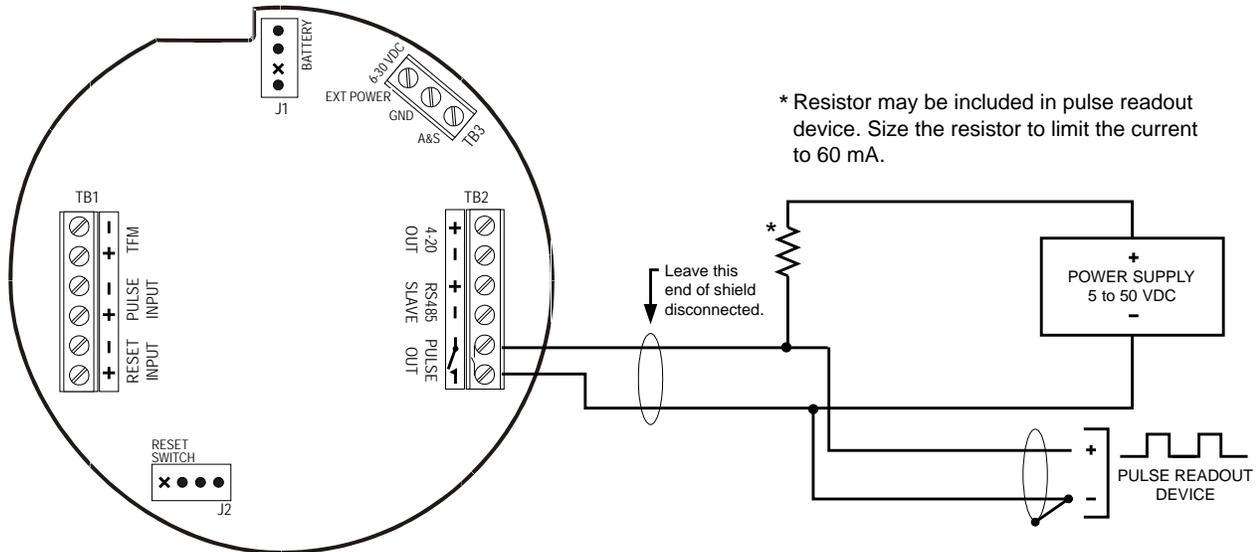

Figure 2.13—Pulse output wiring
8. Connect wiring for output signals, if appropriate. See Figure 2.13, page 24, through Figure 2.17, page 27.
The pulse output is a solid-state relay. Each pulse represents a user-defined volume. Because the circuit is isolated, it can be used in conjunction with any other feature on the MC-III EXP. A two-conductor cable from the MC-III EXP to the remote location is required (Figure 2.13). The maximum current rating of the pulse output circuit is 60 mA at 50 VDC.